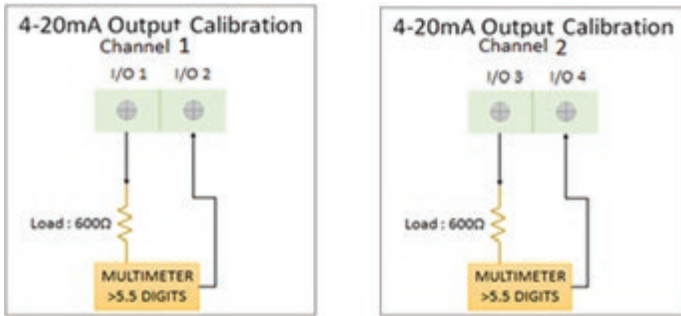

Figure 64: Optional I/O Analog Output Channel 1 and Channel 2 connections
1. Connect the Analog Output as in Figure 64.